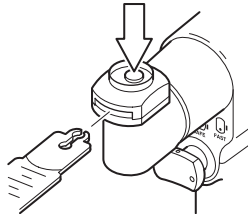

Figure 1 Blade Insertion
2. Depress the blade lock button and insert the blade until the FULL INSERT line disappears in the blade retainer indicating the blade is positioned properly (see figure 1).